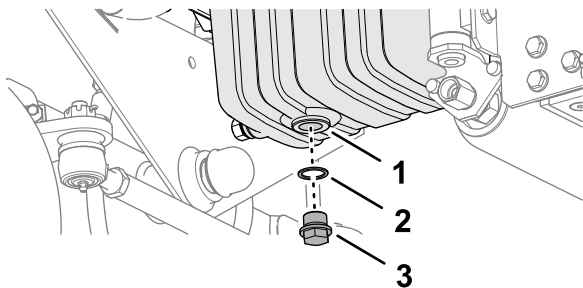

Figure 66
3. Remove the drain plug and let the oil flow into a drain pan (Figure 66).